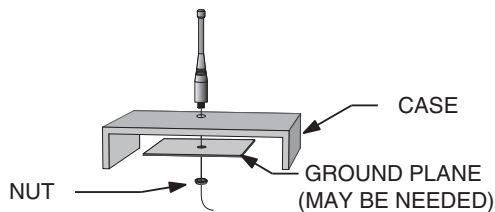

Figure 40: Remote Ground Plane
6. In some applications, it is advantageous to place the module and antenna away from the main equipment (Figure 40). This can avoid interference problems and allows the antenna to be oriented for optimum performance. Always use 50 $\Omega$  coax, like RG-174, for the remote feed.